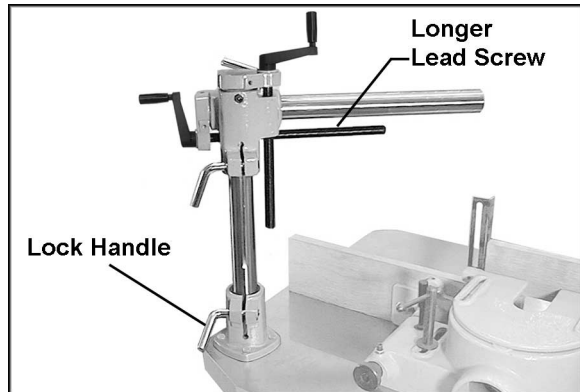

Figure 3
8. The stand assembly can be oriented with either of the columns in horizontal or vertical position. It is recommended, however, that the longer lead screw be placed in the horizontal position, as shown in Figure 3; this will allow maximum adjustment for the stock feeder across the surface of the workpiece. Slide the vertical column down into the base and tighten the lock handle (Figure 3).